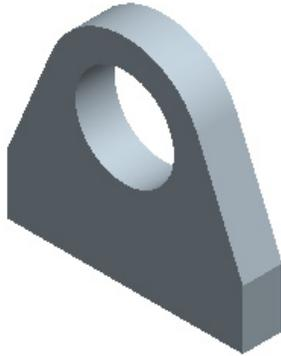
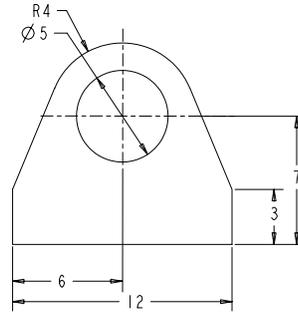

Figure 2-31 Model for Tutorial 1
Figure 2-32 Sketch of the model
In this tutorial, you will draw the sketch of the model shown in Figure 2-31. The sketch is shown in Figure 2-32. The dimensions are given for the reference only.
6. Next, move the cursor horizontally in left direction to create the line A, refer to Figure 2-32. You will notice that as you move the cursor, the horizontal guide symbol is displayed with the line. Move the cursor toward the left and enter **360** for specifying the endpoint of the line.